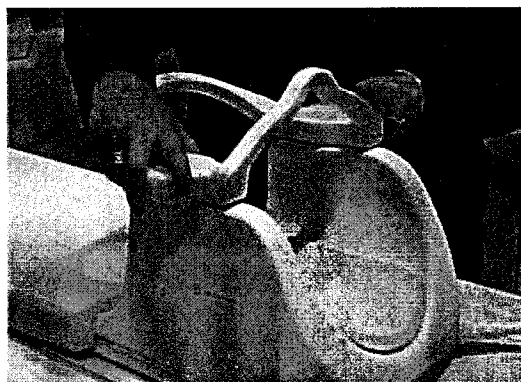

Figure 15: Removing the cervical bridge.
The proper way to remove the cervical bridge is to press both release buttons simultaneously and lift the bridge using both hands. Pressing only one button and lifting the bridge will damage the coil (see *Figure 15*).
Step 1 – Remove the cervical bridge of the coil and attach the adapter block (see *Figures 15 and 16*).